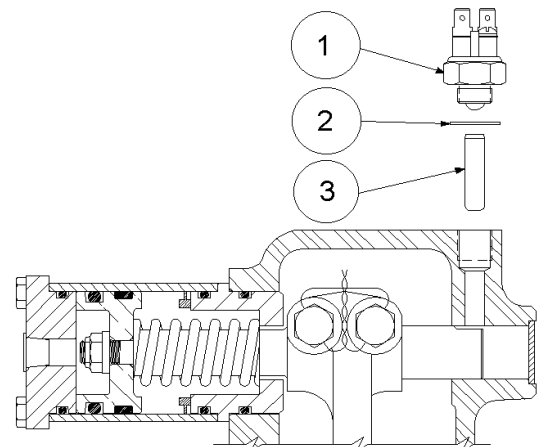

Fig. 82
40. Install the front drive engagement indicator switch pin (3) such that the rounded end of the pin is facing the shift shaft.
41. Install the indicator switch (1) using one copper washer (2). Note: it may be necessary to use two washers for proper switch operation. *See Fig. 82.*